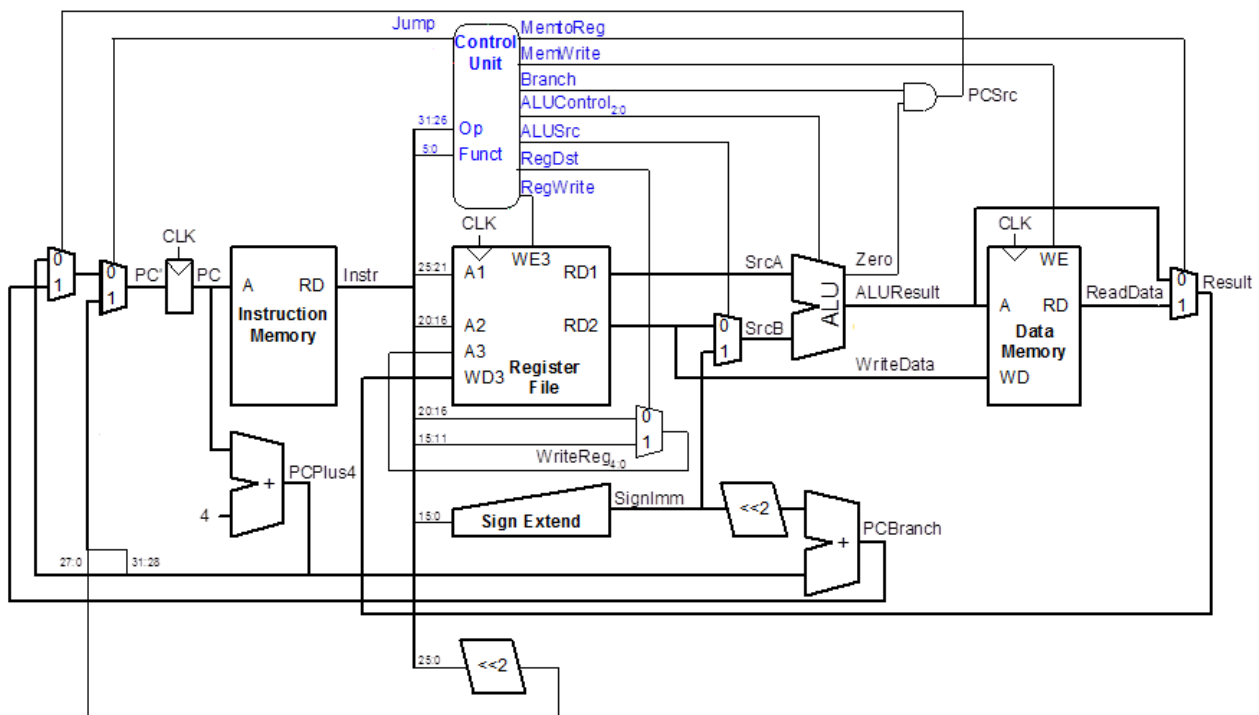

Figure 1: Datapath for Original10
- Study the code and convince yourselves that the *datapath* module exactly corresponds to Figure 1 and *controller* module (including *maindec* and *aludec* modules) to Table 1 and Table 2. In the decoder tables, X means it is a “don’t care”. That is, it does not matter if it is 0 or 1.